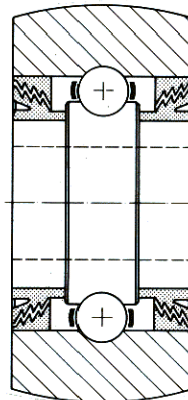

Figure 24
Figure 24 shows a specially designed GMN Gap Seal (S) Type protecting grease lubricated antifriction bearings against splashing fluids, dirt or dust.